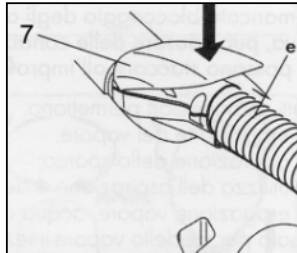

Fig. 8
- Flip the accessory socket door (7) wide open and fit the quick connection of the hose (E) to the socket on the front of the appliance. Press the connection in as far as it will go.
- Close the accessory socket door (7) so that it rests on the body of the quick connection and check that the two elements are properly engaged. Fig. 8